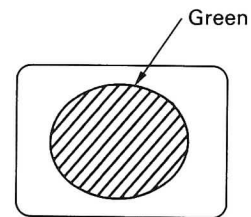

Fig. 8 Screen
- 2) With the deflection yoke positioned fully forward, adjust purity magnet so that the green ball is at the center of the screen. (Fig. 8)
- 2) Loosen the deflection yoke screw and move it forwards and check that the green ball is at the screen center. (Fig. 8)